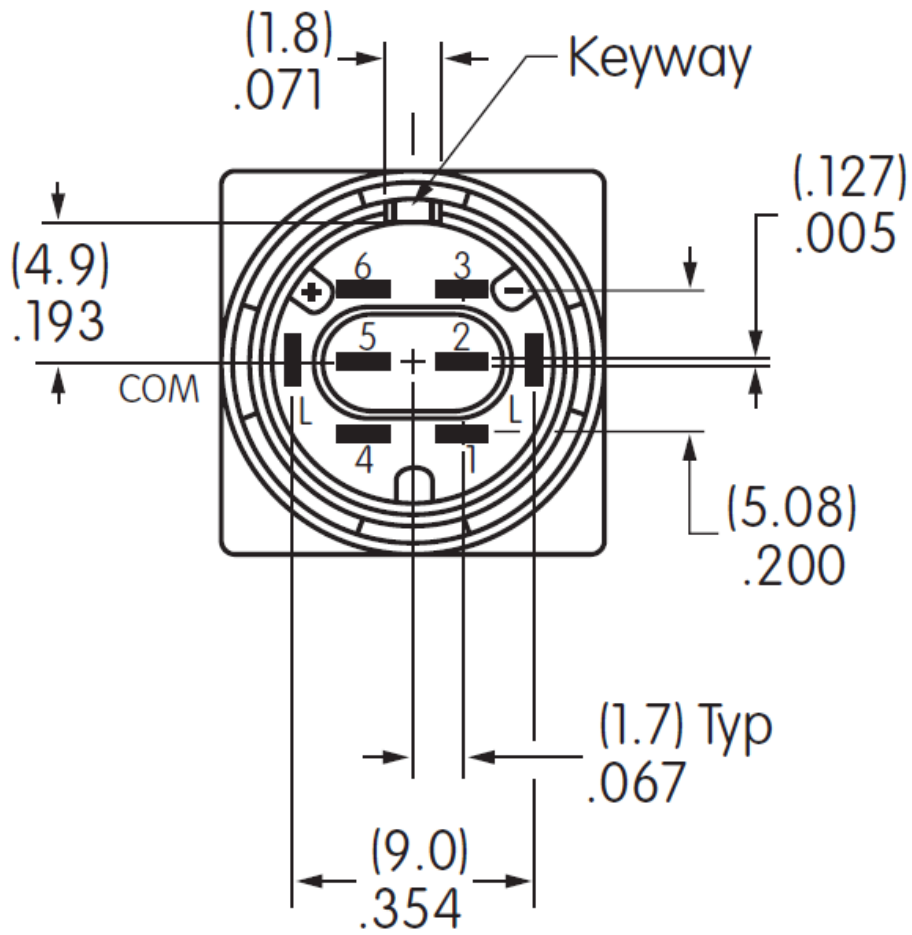

Figure 9: Pinout of KB15SKW01 switch.
- (g) Solder the 173164's black wire to pin 2 white wire to pin 1. Solder the 173148's red wire to L+ and white wire to L-. Switch pin labeling is shown in Fig. 9.